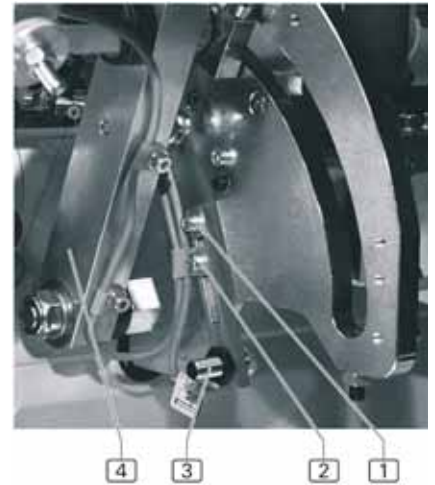

fig. 23
**fig. 23:** When the folder is lowered, initiator **3** is activated. The purpose of the initiator is to make the folding slides close at the right moment, provided these are activated in the program control unit. If the initiator is not set correctly, the folding slides either open too soon or not at all.